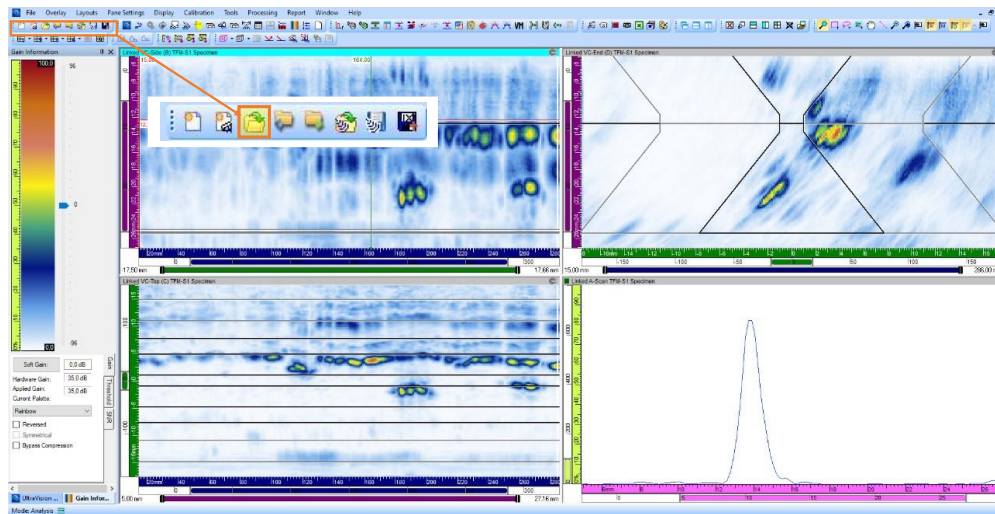

Figure 3 Open Capture/Acquire data file using "Open a data file" button
- the Open Data button in the toolbar (Figure 3)